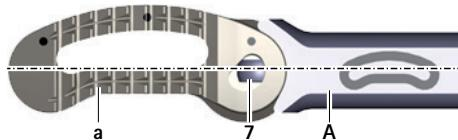

Fig. 8 Implant at 0° position
- ▶ Hold the trial implant D at 0° position on the insertion instrument A, see Fig. 8.
- ▶ Hold the implant at 0° position, see Fig. 8.